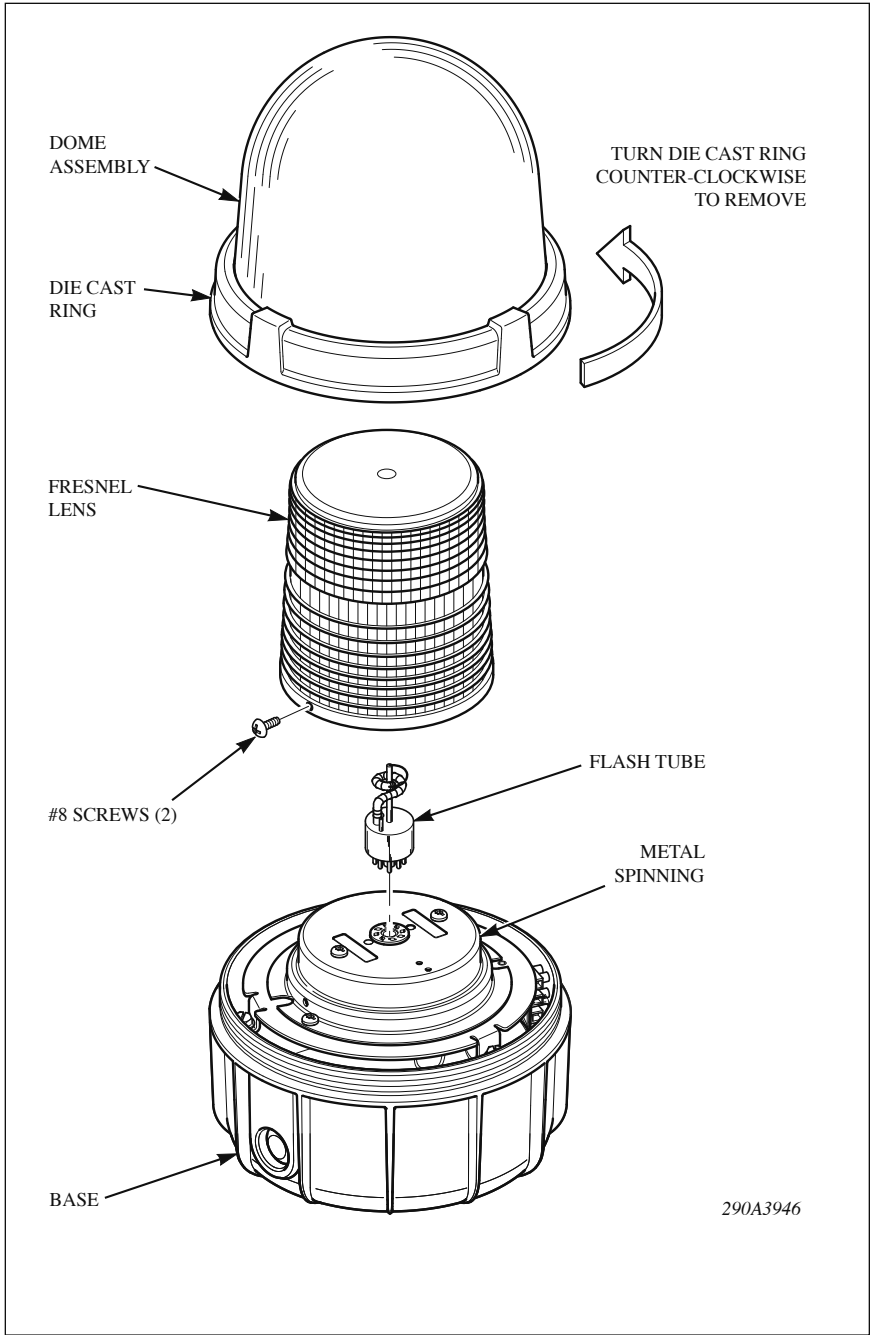

Figure 3
A. FLASHTUBE REPLACEMENT (see Figure 3).